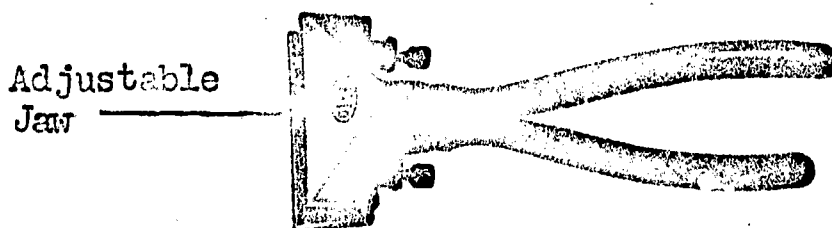

Fig. 1 Hand Seamer
Sheet metal can be formed or bent in many ways. The hand seamer, see Fig. 1, is a tool that is used to make sharp-angle bends or to form hems on a small piece of metal. The blade on a hand seamer is adjustable. It will make angled bends or folded hems from 5/16" to 7/8" wide.
3. Adjust the blade of the hand seamer to make a 1/4" bend. Check the adjustment by taking a steel rule and measuring from the edge of the blade to the edge of the back of the hand seamer, see Fig. 1.